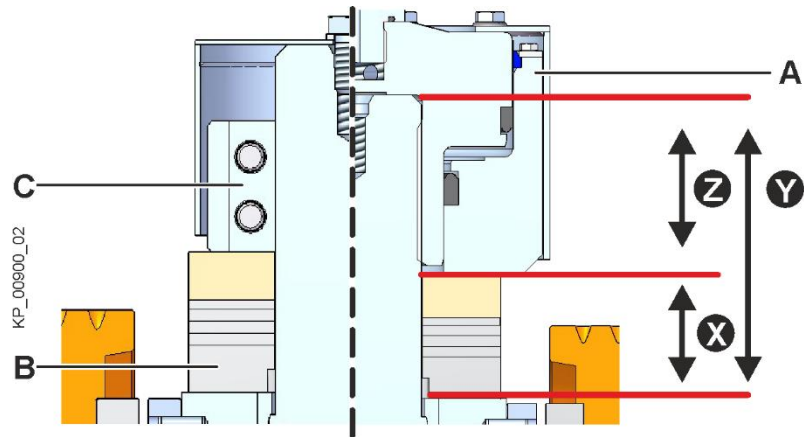

Fig. 20: Control dimension
- The offset spacer ring (Fig. 20/B) must be inserted first.
The dimension (Fig. 20/Z) between upper edge of the spacer rings and upper edge of the main shaft is about 87 mm. This dimension is deducted from the total dimension (Fig. 20/Y). The result is the necessary height of the spacer rings (Fig. 20/X).
- Mount the grooved nut (Fig. 20/C) or hydraulic nut (Fig. 20/A) (see section in the chapter "Assembly").